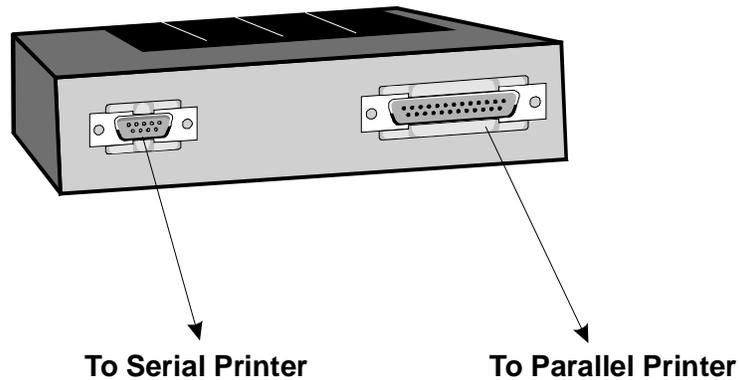

Figure 4-25 Printer Connection
5. Connect a printer to the 5824 as shown in Figure 4-25.